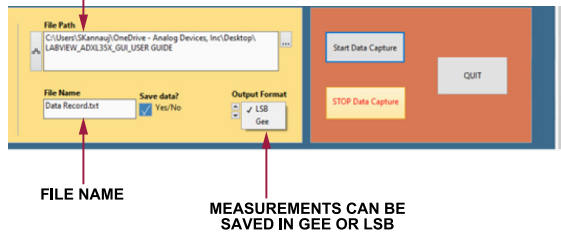

Figure 14. User Defined File Path and Name
- **File Path.** All data can be saved with a custom name to a specified path in either gee or LSB format (see Figure 14). There are alternative methods for accessing data. When right click on the measurement window, various export options (such as to clipboard or to Excel) appear. Additionally, a screenshot of the window can be copied using the **Copy Data** option. Note that the export method is designed to capture the data currently displayed in the window, with a maximum of 10,000 samples
- **Start Data Capture/Stop Data Capture and Quit.** These commands are universally accessible across all tabs. Clicking **Start Data Capture** initiates data collection on the current tab. Once activated, **Start Data Capture** is automatically grayed out and disabled until the user presses **Stop Data Capture**. **Quit** allows the user to exit the GUI (see Figure 14).